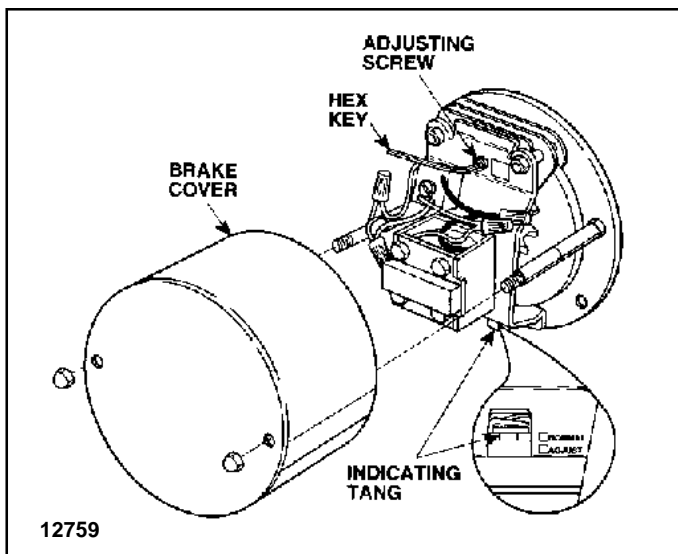

Figure 7-1. Motor Brake - Early Version
a. Examine position of indicating tang located below the solenoid coil (Figure 7-1 or 7-1A).
c. On the early version of the brake (Figure 7-1), if the tang is below the midway position of the two adjustment points shown on the brake, the brake should be adjusted to bring the tang back up alongside the NORMAL position on the brake.
d. Remove the hex key (1/8" size) from the holster on the cover mounting stud and carefully turn the ADJUSTING SCREW (located above the solenoid coil) clockwise. The indicating tang will move a large distance for a small turn of the adjusting screw, therefore turn the screw no more than one quarter turn before checking adjustment.